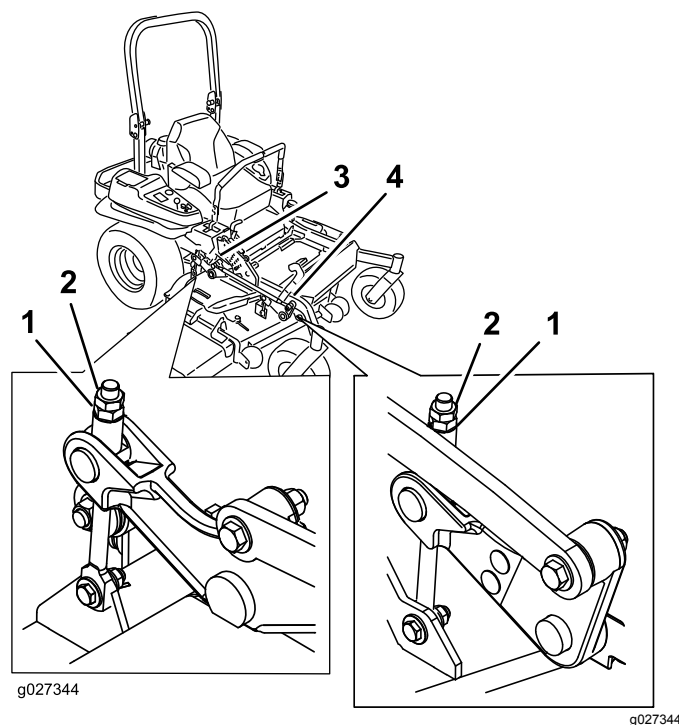

Figure 95
10. Fine-tune the adjustment nut on the front deck lift assembly by turning it (Figure 95).
16. Fine tune the screw adjuster by turning it to get 8.3 mm (3-1/4 inches) height (Figure 95).